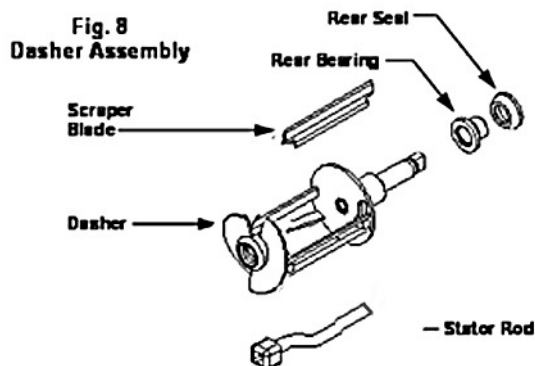

Fig. 8
- Remove the dasher assembly (Fig. 8) being careful not to damage the scraper blades, then disassemble in the following manner: